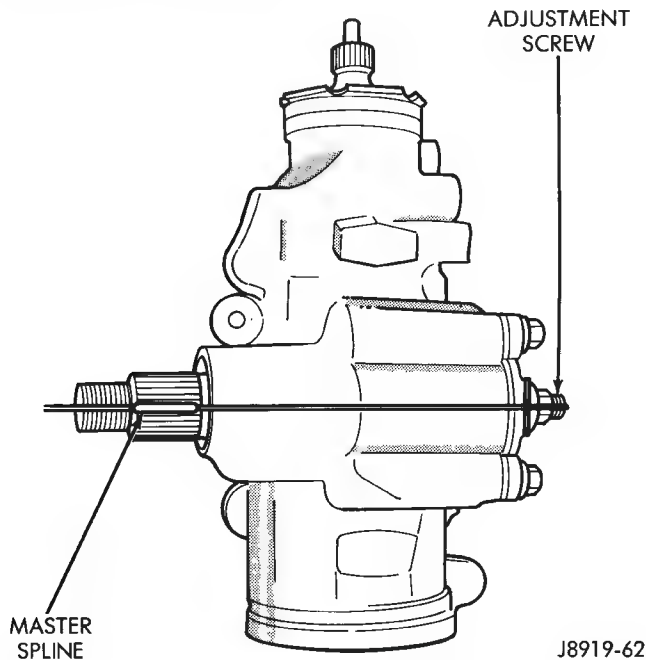

Fig. 12 Steering Gear Centered
- (1) Rotate the stub shaft from stop to stop and count the number of turns.
(2) Starting at either stop turn the stub shaft back 1/2 the total number of turns. This is the center of the gear travel (Fig. 12).